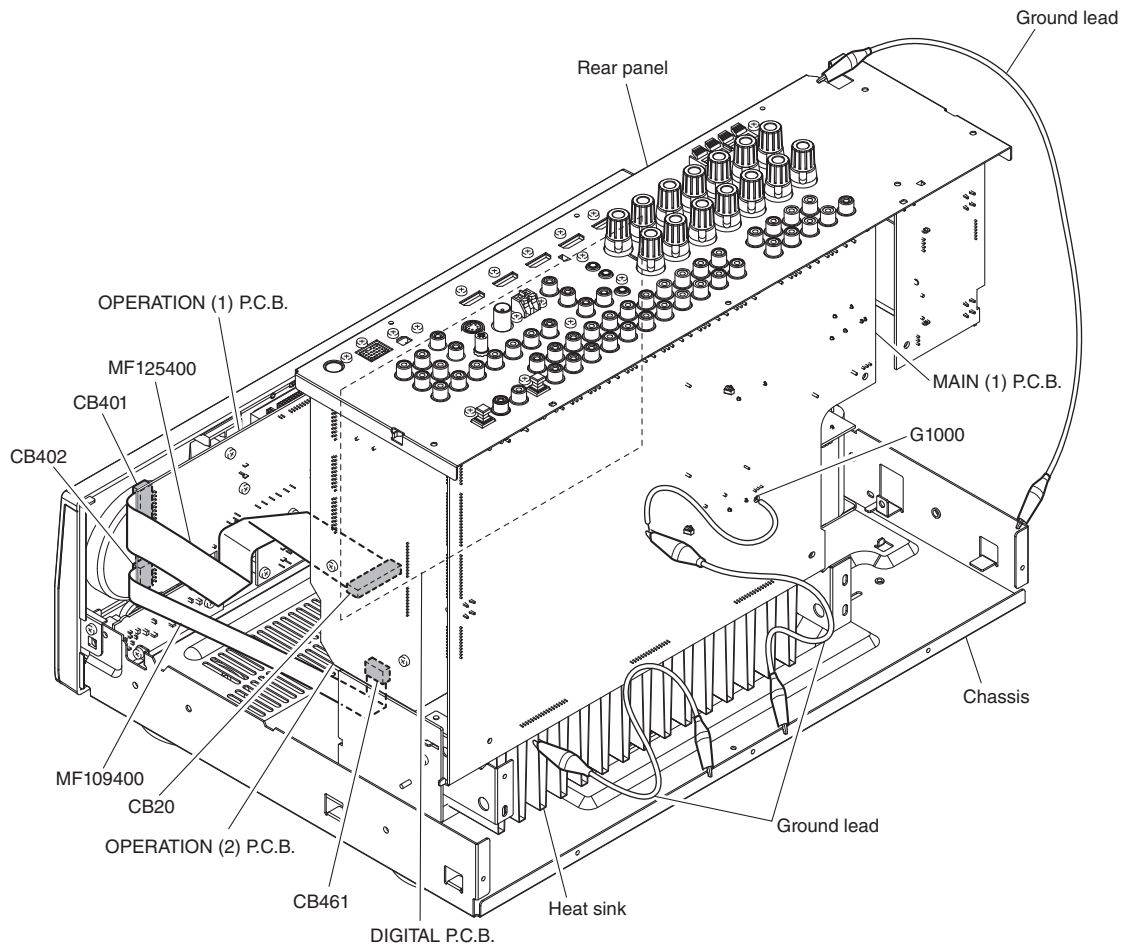

Fig. 3
- Place the P.C.B.s (with rear panel) upright. (Fig. 3)
- Connect the ground points of the heat sink, rear panel and MAIN (1) P.C.B. (G1000) to the chassis with a ground lead or the like. (Fig. 3)